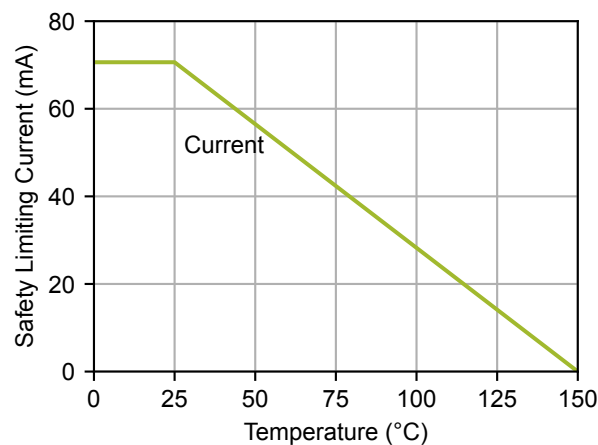

Figure 4.2. WB SOIC-14 Thermal Derating Curve, Dependence of Safety Limiting Values
1. Maximum value allowed in the event of a failure. Refer to the thermal derating curve in Figure 4.2 WB SOIC-14 Thermal Derating Curve, Dependence of Safety Limiting Values on page 16.